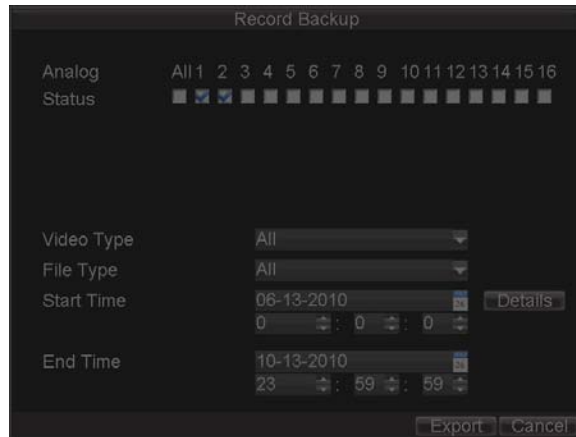

Figure 1. Export Video
1. Click Menu > Video Export to enter the Export Video menu, shown in Figure1.